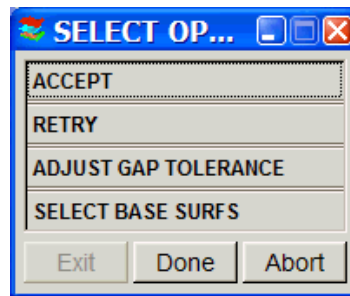
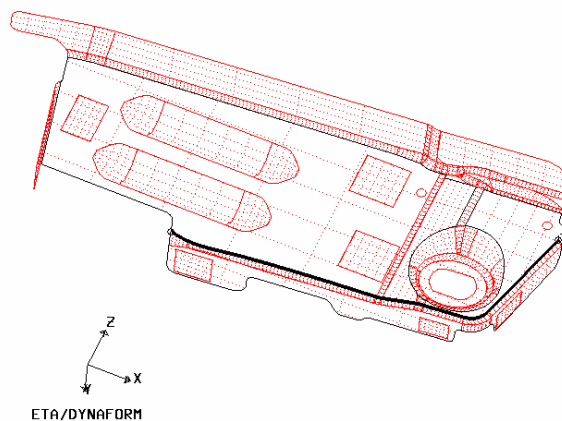

Figure 6.1.3 Select Options
Figure 6.1.4 Unfold Line and Boundary Line
- After selecting surfaces, DFE will find and highlight the unfold line and the boundary line. The bold line is the unfold line, and the other is the boundary line of the base surface and unfolded surface as shown in Figure 6.1.4. At the same time, the program displays an option window as shown in Figure 6.1.3 to select the option for the next operation.